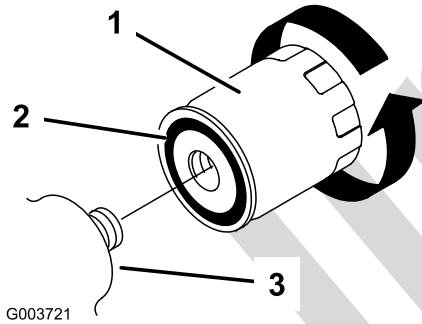

Figure 35
4. Remove the old filter (Figure 35) and wipe the surface of the filter adapter gasket clean.
5. Apply a thin coat hydraulic fluid to the rubber gasket on the replacement filter (Figure 35).
6. Install the replacement hydraulic filter onto the filter adapter (Figure 35). Tighten it clockwise until the rubber gasket contacts the filter adapter, then tighten the filter an additional 1/2 turn.